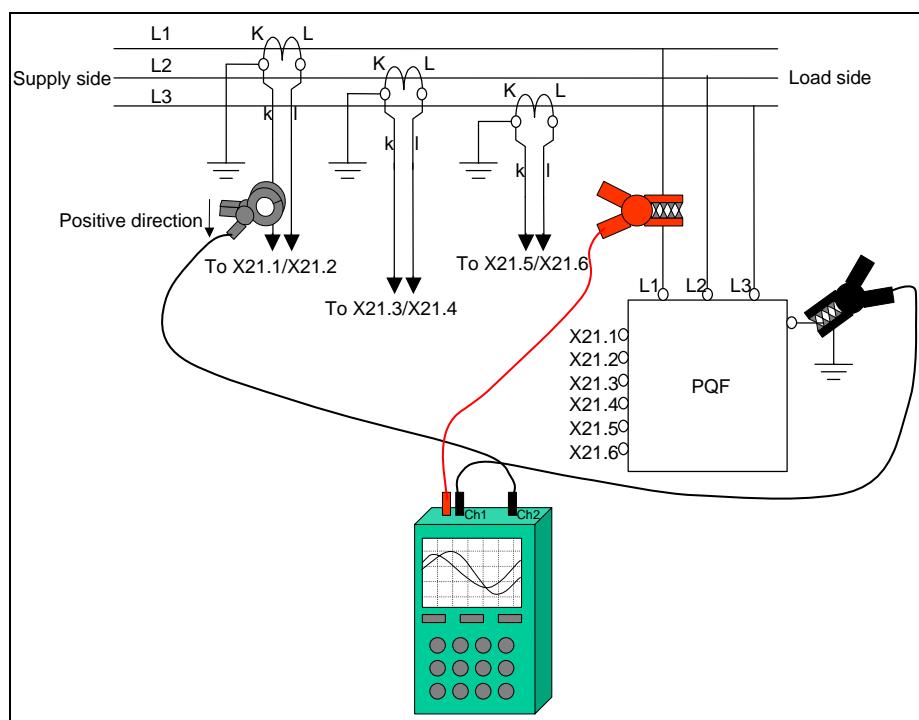
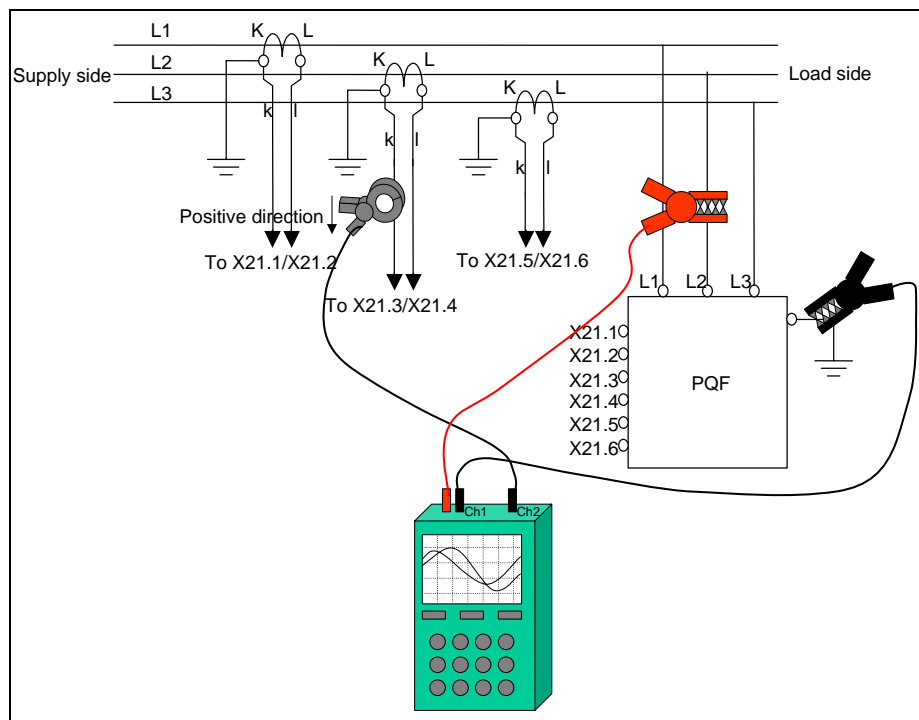
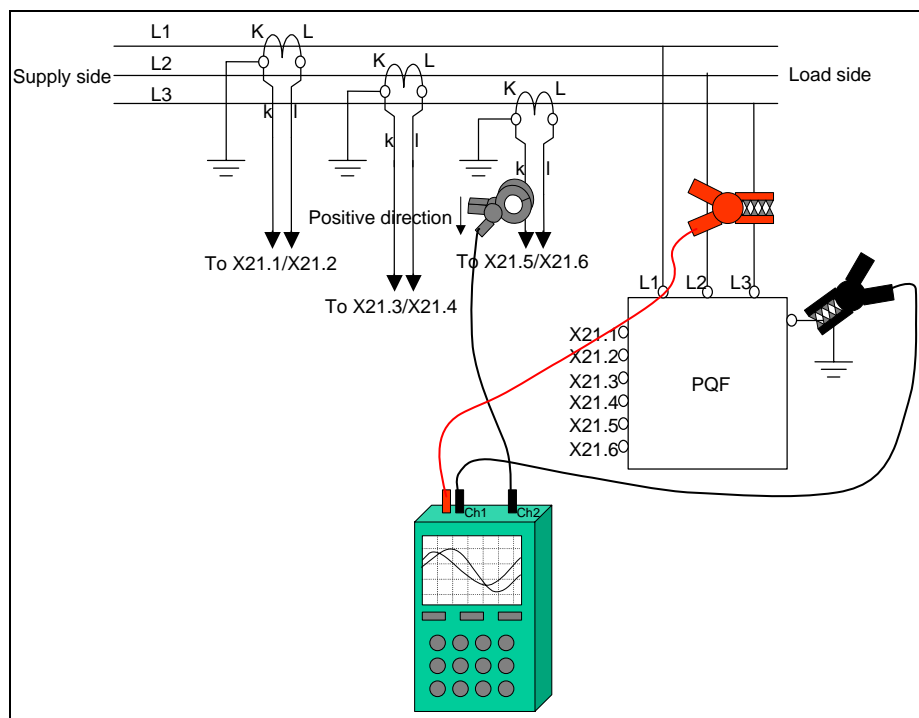

Figure 10.2. Connection of the scopemeter for checking the CT in phase L1
Figure 10.5. Connection of the scopemeter for checking CT in phase L2
Figure 10.6. Connection of the scopemeter for checking CT in phase L3
10.5.2.3.1. Measurement of the CT in phase L1 (Figure 10.2.)
10.5.2.3.2. Measurement of the CT in phase L2 and L3 (Figure 10.5. and Figure 10.6.)
The same operations as those described in the previous paragraph must be repeated with the phase L2 (Figure 10.5.) and phase L3 (Figure 10.6.).
The probes must be connected as shown on Figure 10.2., Figure 10.5. and Figure 10.6.